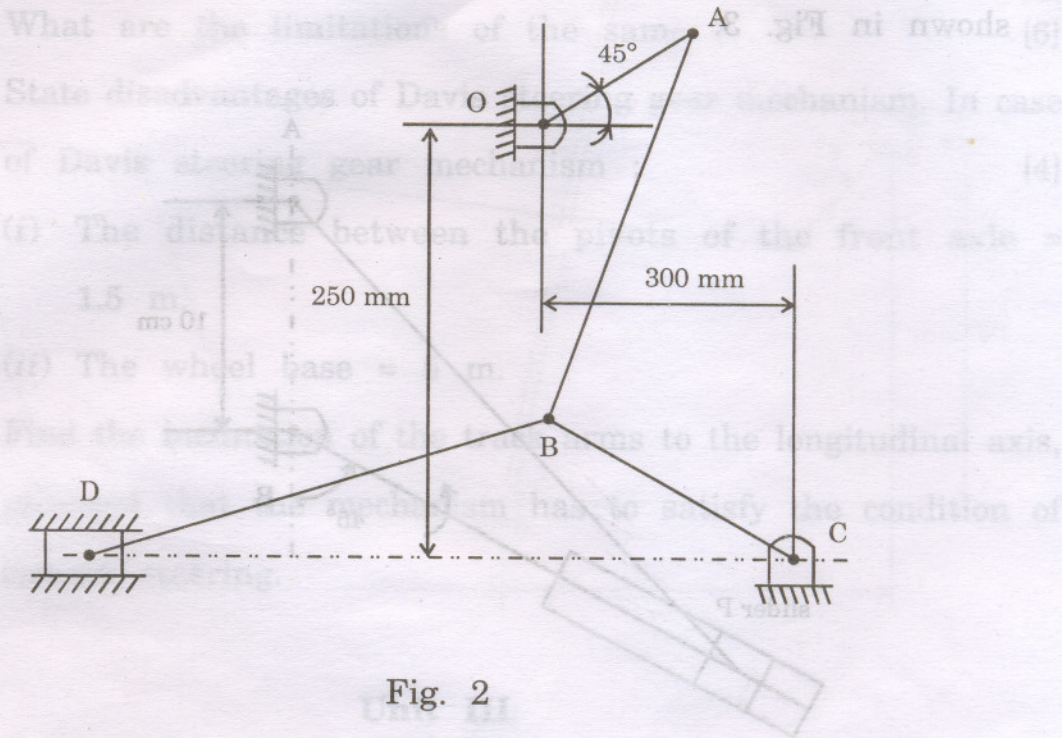

Fig. 2
- (b) Fig. 2 shows a toggle mechanism. The length of links are : [12]